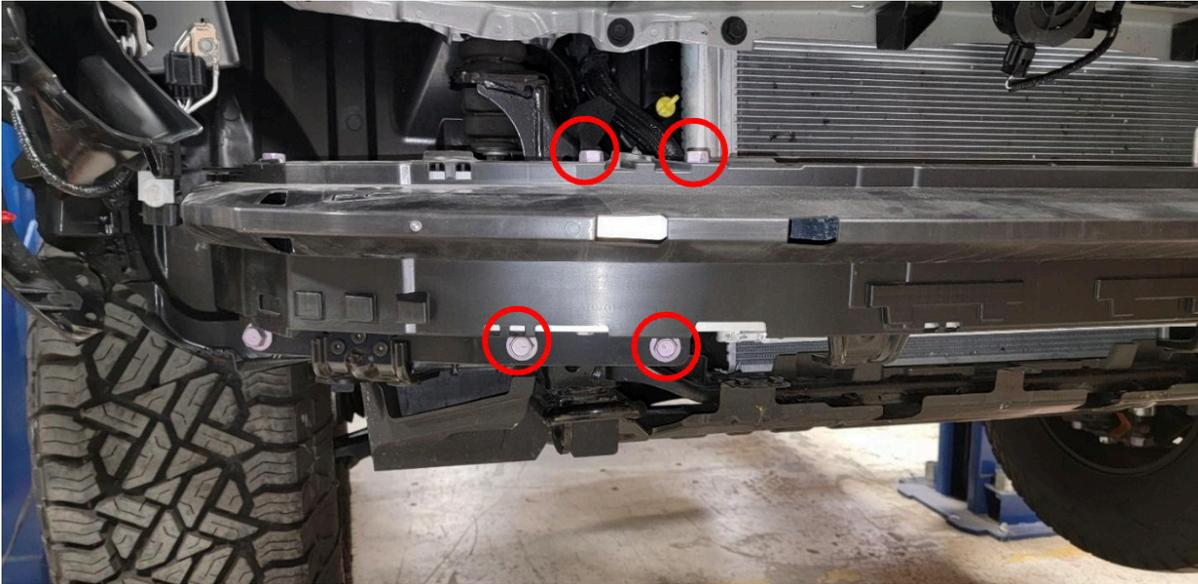

Figure 12.
11. Remove the crash bar by using a 17mm socket wrench to remove the four (4) bolts on each frame horn. These bolts will be used later for reassembly. Figure 12.